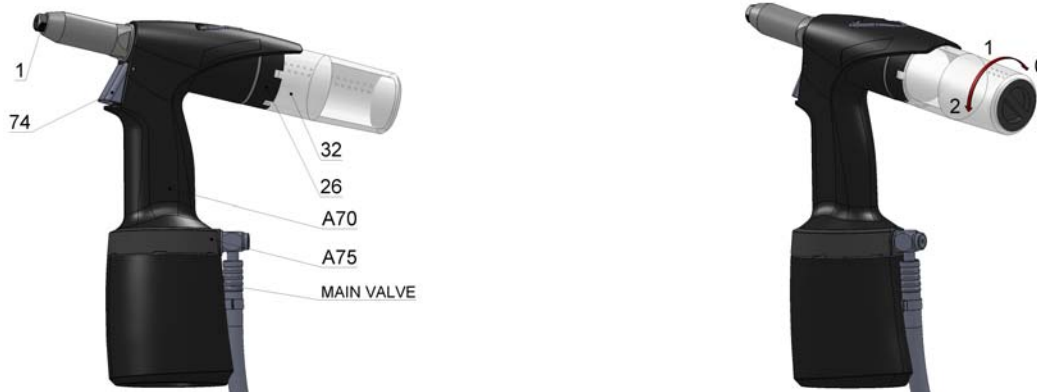

Fig.1
The manufacturer equipped the tool with a nose-piece /fig.1 – pos.1/ for a rivet Ø 5,0. Riveting with blind rivets of different diameters (further on referred to as BR) requires use of appropriate nose-pieces that are located in the accessories casing of the tool.
Replacement of nose-pieces: Connect the tool to the source of compressed air, depress the trigger and screw out the nose-piece /fig.1 – pos.1/ with a spanner no. 12. Screw on a new nose-piece /acc. to the chart/ and tighten it. Now you can release the trigger of the tool.
The tool is equipped with revolving air supply /fig.1 – pos.A75/ which enables manipulation with air supply before as well as during tool operation, air hose does not obstruct riveting in any position.
The tool is equipped with multifunction trigger /fig.1 - pos.74/ which enables following: